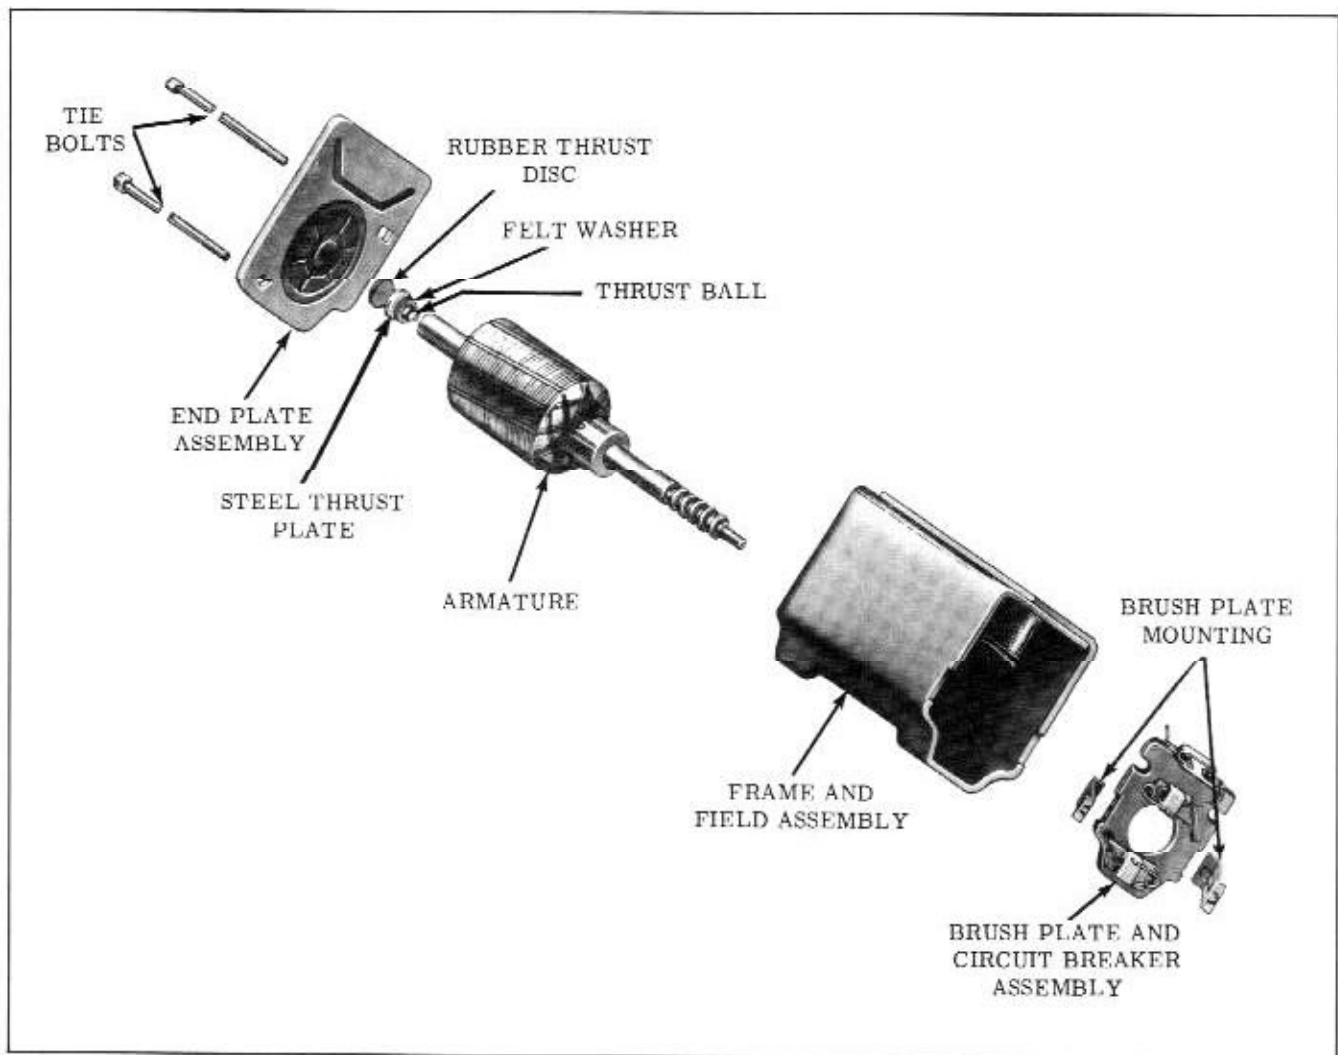

Fig. 13-121 Motor Assembly
5. Pry brush plate retainers loose from frame and pull brush plate out from frame. If brushes are to be replaced unsolder brush leads and remove old brushes. Solder in new brush leads at their respective positions. (Fig. 13-121)